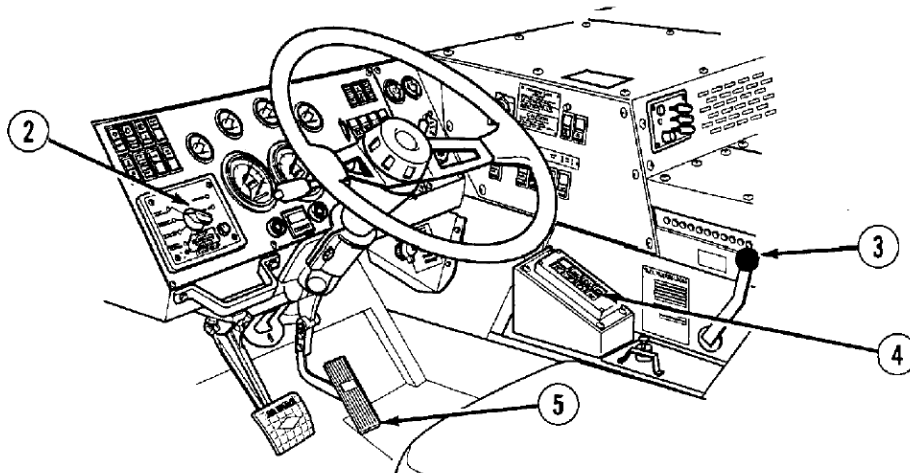

Figure 12. 10 Transmission Controls
- 12.3.2.5 Set the CTIS switch (Figure 12. 10. (2)) to the desired position.
- 12.3.2.6 Set the transfer case shift lever (Figure 12. 10. (3)) to **LO**.